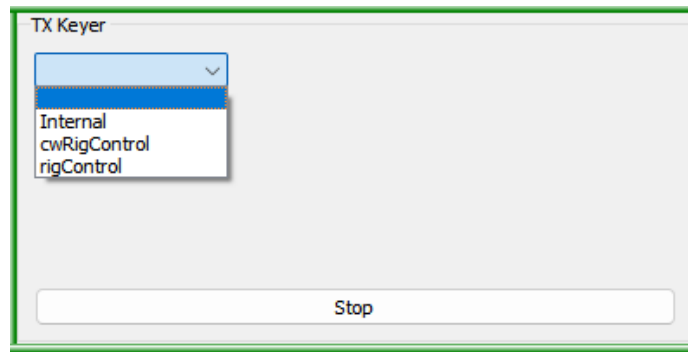

Figure 132 – TX Keyer panel in Logger
Having added the Keyer panel to the Logger screen layout (see section 3.5), the pulldown list at top left allows selection of the method to be used (Figure 132):
- “**Name**” is what is displayed on the button (Figure 132).